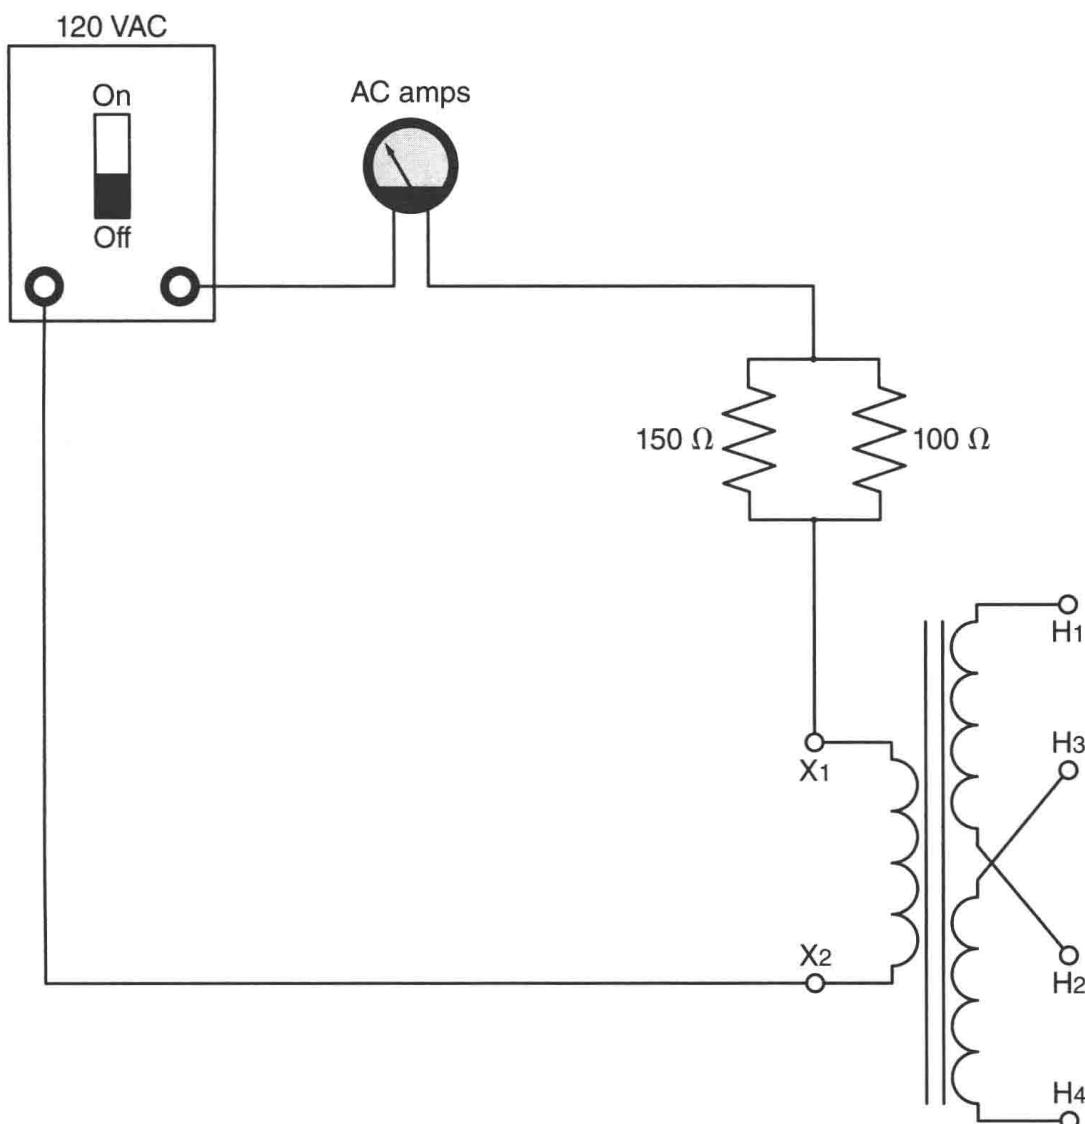

Figure 18-1 The 100 ohm and 150 ohm resistors are connected in parallel to produce a resistance of 60 ohms.
1. Connect the circuit shown in Figure 18-1.